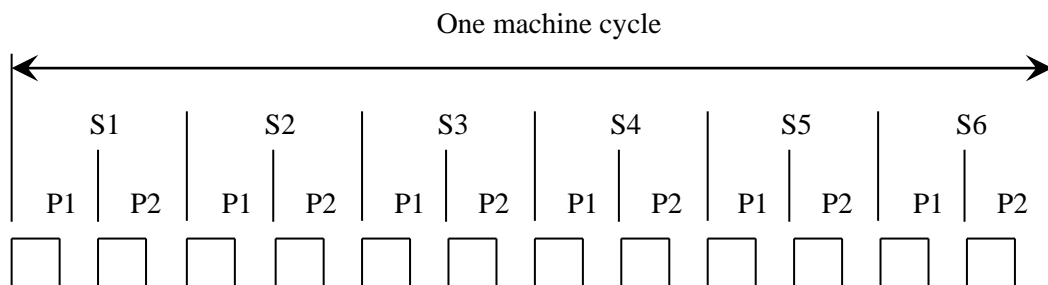

Figure 1.7: Relationship between oscillator clock cycles, states and machine cycle
With the oscillator as reference, the 8051 requires two clock cycles to perform a single discrete operation, which is either fetching an instruction, decoding, or executing it. This duration of two clock cycles is also called a state. Therefore, in order to fully process an instruction, the 8051 would generally require 6 such states, or 12 clock cycles since it would have to first fetch and decode the instruction before it goes to execute it. This duration of six states is also known as one ‘machine cycle’. More complex instructions would take more than one machine cycle to be carried out. This number ranges from one to four machine cycles. The Figure 1.7 shows the relationship between clock cycles (P), states (S) and a machine cycle.